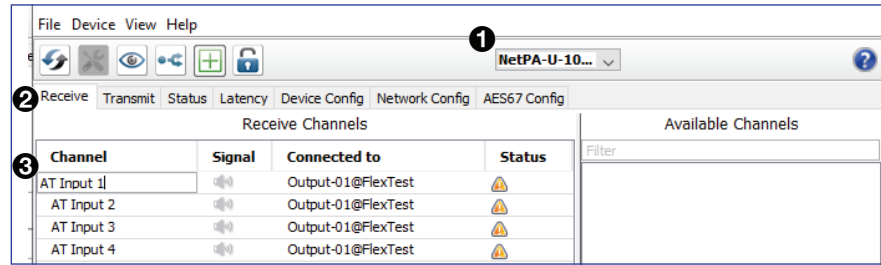

Figure 87. Device View Screen – Renaming an Amplifier
The default names shown in the **Dante Receivers** column are extracted from the Dante interface of the connected device (see figure 87, ① on page 80). The NetPA Ultra Series receivers are labelled **AT Input 1** through **AT Input 4**. Follow the instructions below to rename a receiver.
2. From the **(Select a Dante Device..)** drop-down list, select the name of the desired NetPA Ultra Series amplifier (see figure 87, ①).
3. On the **Device View** screen, select the **Receive** tab (②).
4. Click on the name of the receiver to be renamed. The name becomes a text box with a cursor (③).
The default names shown in the Dante Transmitters column are extracted from the Dante interface of the connected device (see figure 87, ①). The NetPA Ultra Series receivers are labelled Line Output 1 through Line Output 4. Follow the instructions below to rename a transmitter.